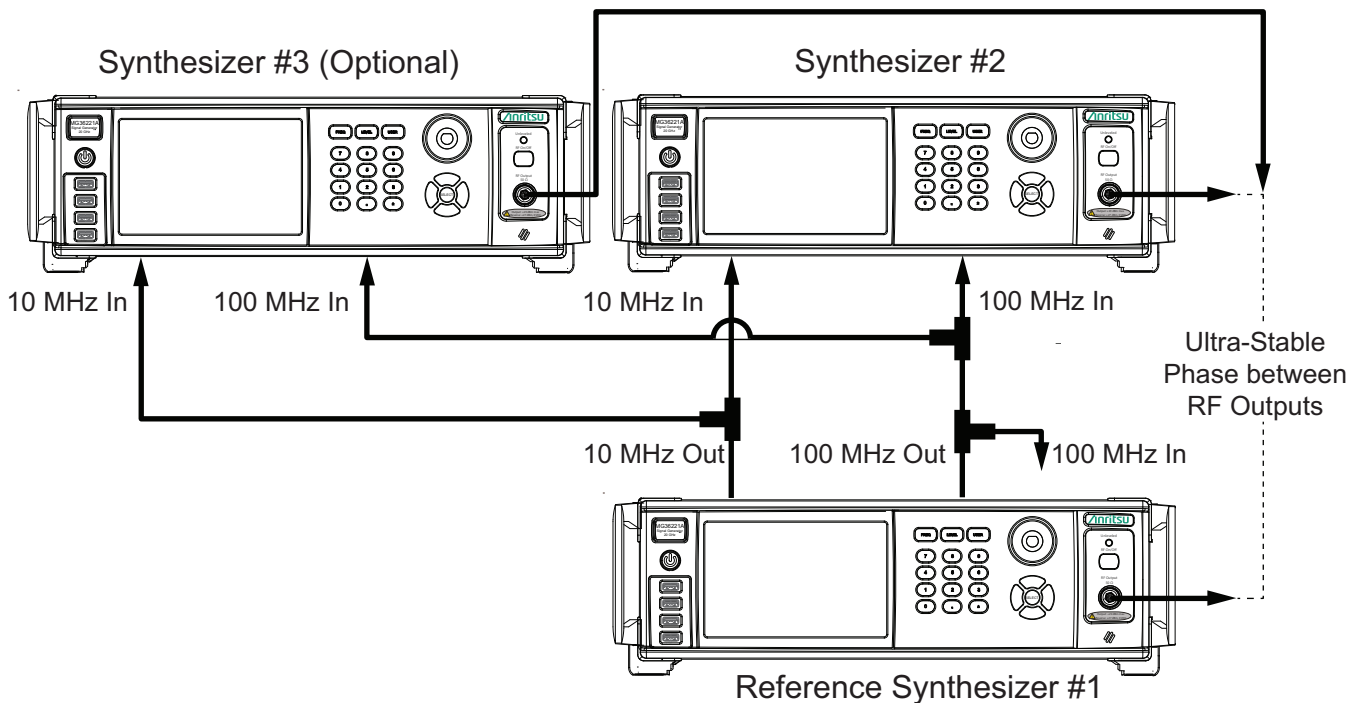

Figure 3-77. Phase Tracking Connections of Multiple MG362X1A Instruments
- **100 MHz Reference Input:** Accepts the 100 MHz reference signal from another MG362x1A. To enable two MG362x1A instruments to phase track with high stability, connect the instruments as shown in Figure 3-77 using 50 Ω BNC cables and a 50 Ω BNC Tee:
Once connected as shown in Figure 3-77, connect an oscilloscope channel to each of the RF outputs from the signal generators to display the initial phase difference between the RF signals. Use the “Phase Offset Menu” on page 3-5, adjust the phase offset of one of the units to achieve the desired phase relationship as shown on the oscilloscope. Once the desired phase relationship has been achieved, the Phase Offset value may be zeroed. This will not affect the phase shift of the RF output, but will establish the currently set phase as the reference value for all future entries of Phase Offset.